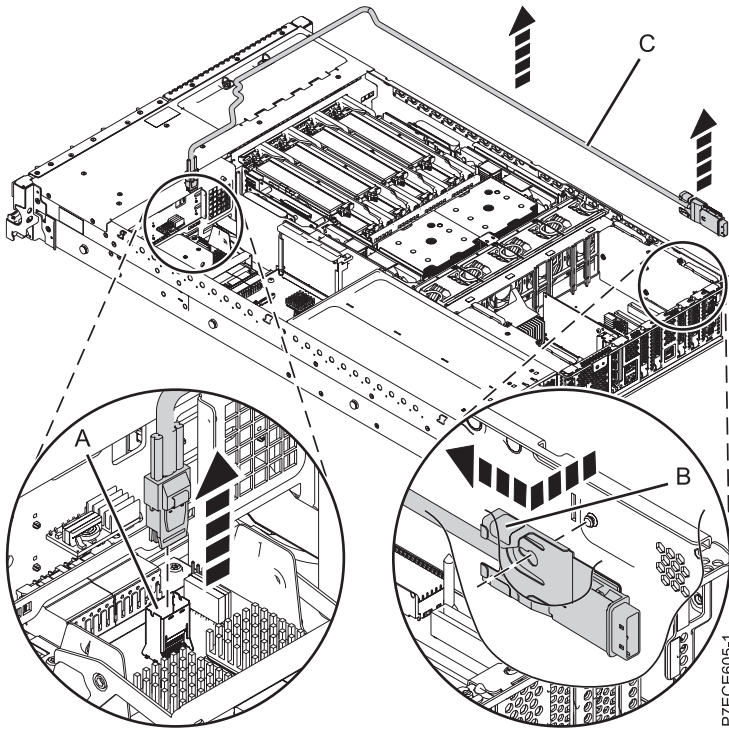

Figure 37. Removing the external SAS port
9. Pull the cable bracket at the blue touch point (B) and slide the SAS cable out of the external SAS port opening in the rear of the chassis. See Figure 37 on page 60.
10. Pull out the SAS cable (C) from the system.
11. Squeeze the latch on the SAS connector (A), and then pull the cable out of the shroud on the system interposer card.